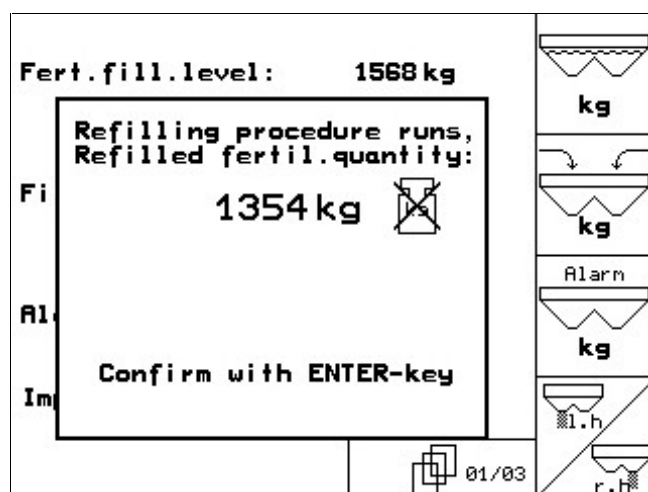

Fig. 87
- confirm refilled amount of fertiliser (Fig. 87).